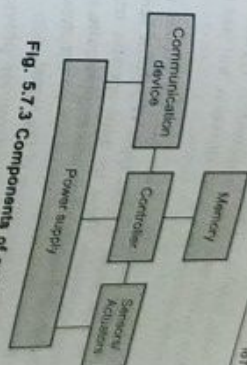

Fig. 5.7.3 Components of sensor node
- Fig. 5.7.3 shows sensor node. A basic sensor node comprises five main components.